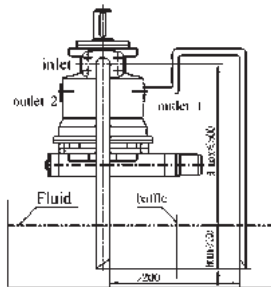

Fig. 2
b) If the minimum fluid level is below the pump mounting face pipe port "outlet 1" and "inlet" according to Fig 2 Close port "outlet 2" with respect taking into consideration. Conditions in 1.2.1.
Before installation fill the pump housing, keeping it in a horizontal position. For mounting above reservoir see Fig. 2.